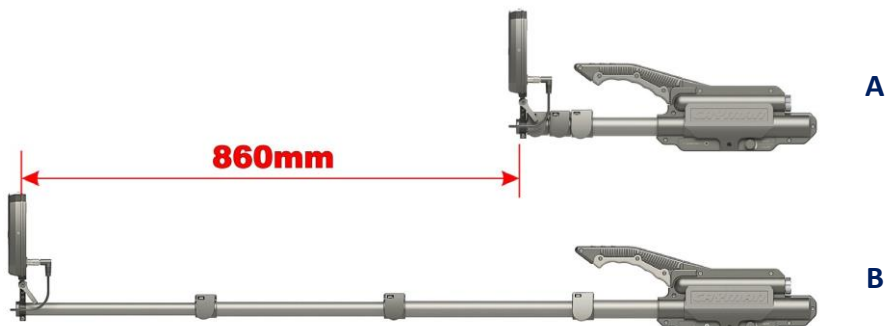

Fig. 6
Inside the telescopic arm there is a twisted cable connecting the antenna module with the power and control units located in the main unit. Figure 6 shows the ST-402 with the telescopic arm folded (A) and maximally extended (B).